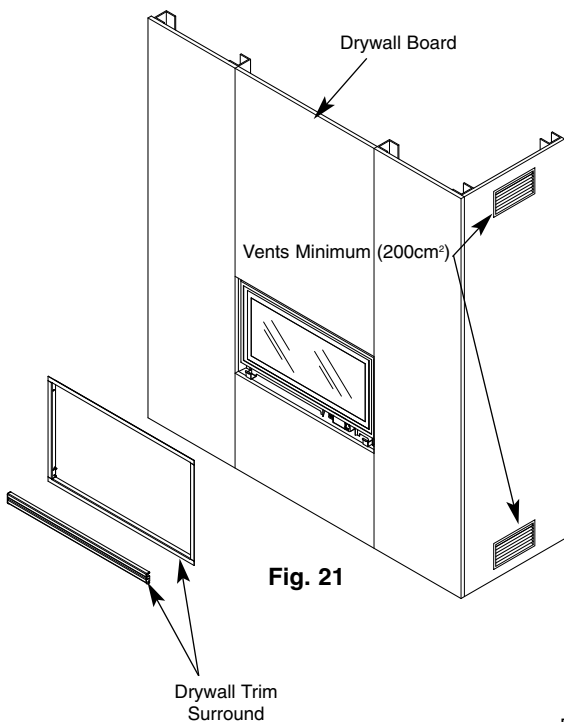

Fig. 21
10. Cut and fix drywall boards to the framework of the chimney breast ensuring they fit neatly around the flange of the drywall fixing kit (Fig. 21).
11. The chimney breast must have adequate ventilation, minimum of 200cm². The room will utilise warm air flow if a vent is fitted at the top and bottom of the chimney breast as shown in Fig (Fig. 21).
12. Locate the drywall trim surround into the opening and secure to the drywall fixing kit with the four screws provided (Fig. 21).